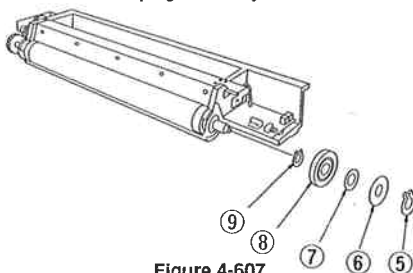

Figure 4-607
- 7) Remove the grip ring ⑤, plastic film ⑥, spacer ⑦, roller ⑧, and C-ring ⑨ in the order given in Figure 4-607 from the cylinder shaft at the front of the developing assembly.